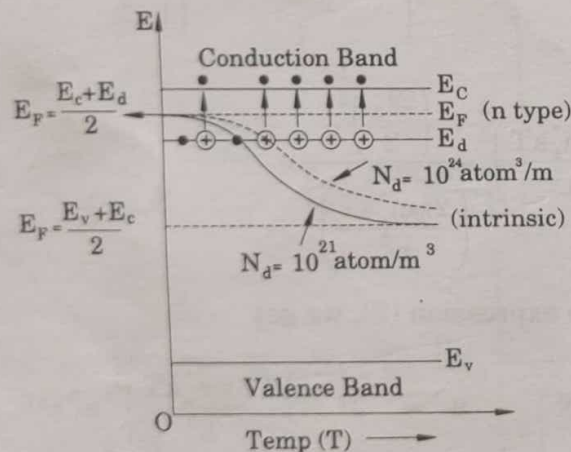

Fig. 2.10 Variation of Fermi level with temperature
- (i) The density of electrons in the conduction band is proportional to the square root of the donor concentration. The equation (10) is valid only at low temperatures.
The increase in temperature increases the fermi level as given by equation (4). Further increase in temperature ionise more and more donor atoms. For a particular temperature all the donor atoms are ionised. If the temperature increased beyond this electron hole pairs will be produced due to breaking of covalent bonds and the material tends to behave in intrinsic manner. Thus, the fermi level gradually moves towards the intrinsic fermi level E_i as shown in Fig. 2.10.
It is seen from the figure that, lowering of fermi with temperature is *slow* in the case of *higher donor concentration* than the lower donor concentration. The highly doped semiconductor will behave in intrinsic manner only after all the donor atoms are ionised. The behaviour of fermi level for two different donor concentrations is given in Fig. 2.10.